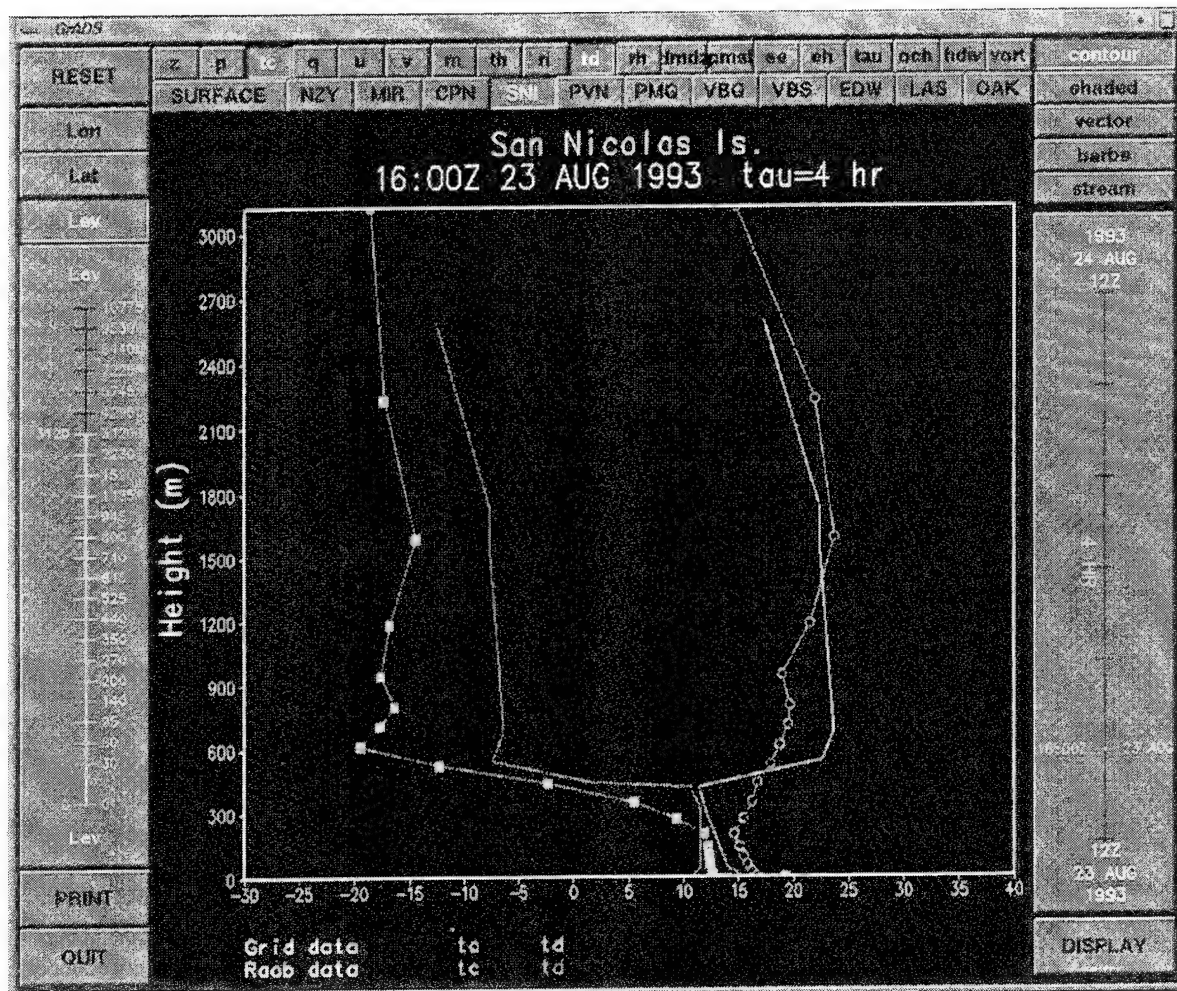

Figure 13. Typical radiosonde and model profiles.
7.4 Upper Air Station Data Display. Upper air data and model vertical profiles are displayed (Fig. 13) the same as gridded data by either clicking "DISPLAY" or clicking the right mouse button in the window's central area.